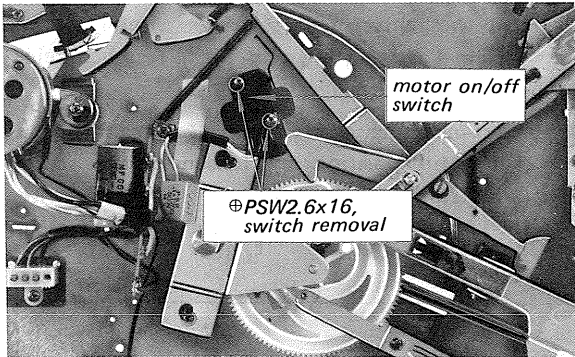

Fig. 2-8. Motor on/off switch replacement
2. Remove the two screws ( $\oplus$ PSW 2.6x16) securing the motor on/off switch together with the flat spring as shown in Fig. 2-8. This frees the motor on/off switch.